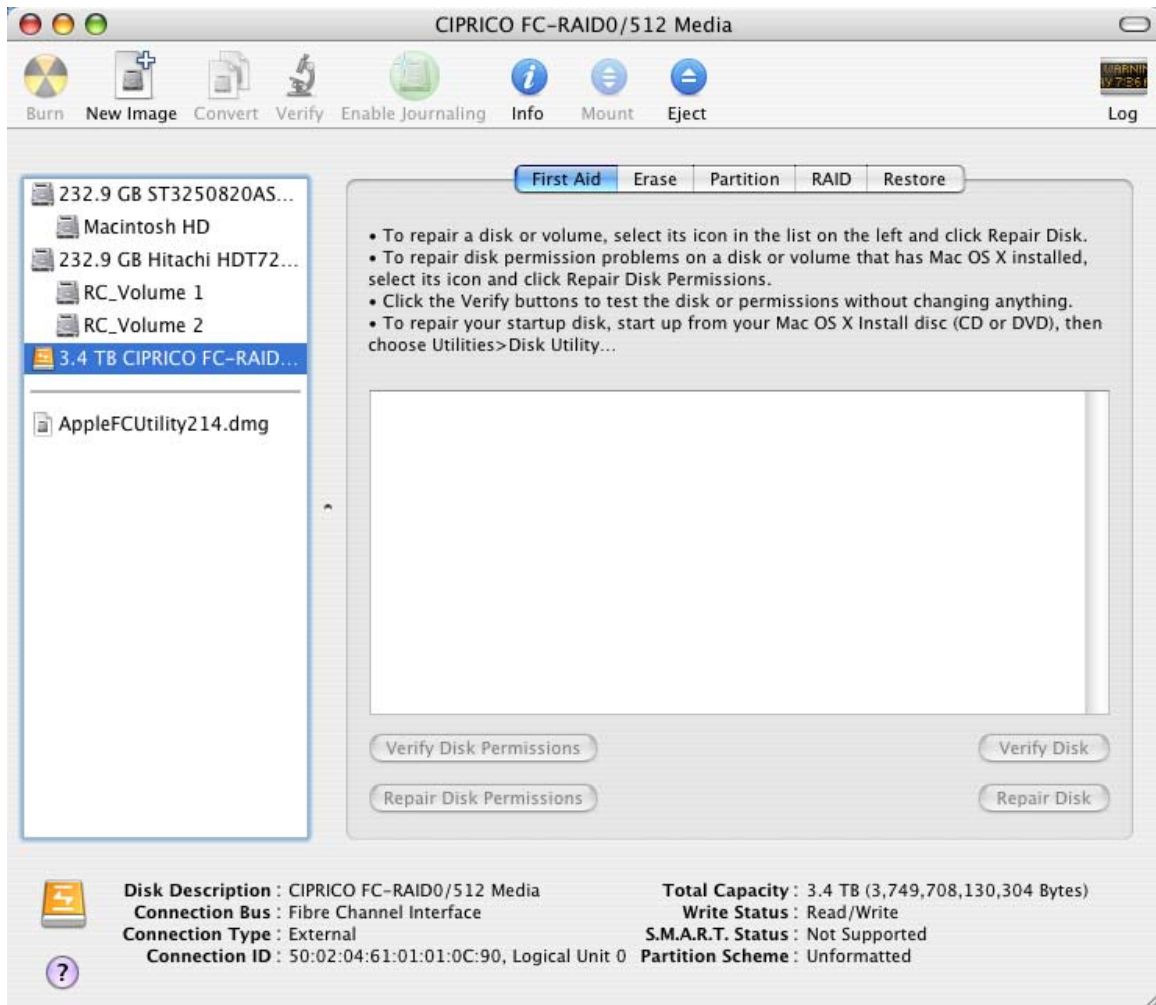

FIGURE 6-3. The Apple Disk Utility Screen, Showing the Disk Icon and “First Aid” tab.
4. Click on the CIPRICO FC-RAID icon. The screen changes, with the text of the “First Aid” tab displayed. See Figure 6-3.